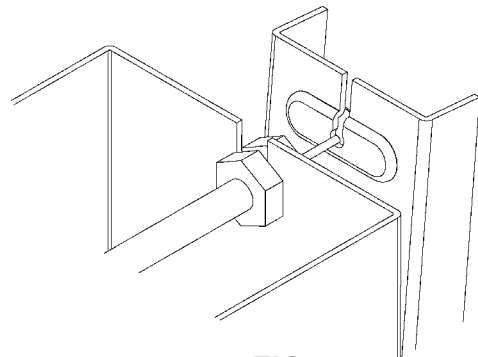

FIG. 7
1. Assemble the operating cable to the fountain bracket. (Fountain should be mounted to exterior wall) Create a loop in the cable and thread the free end of the cable through the wall into the freeze resistant box. The adjustment nuts should be in the middle of threaded area on the operating cable. See Figure 7